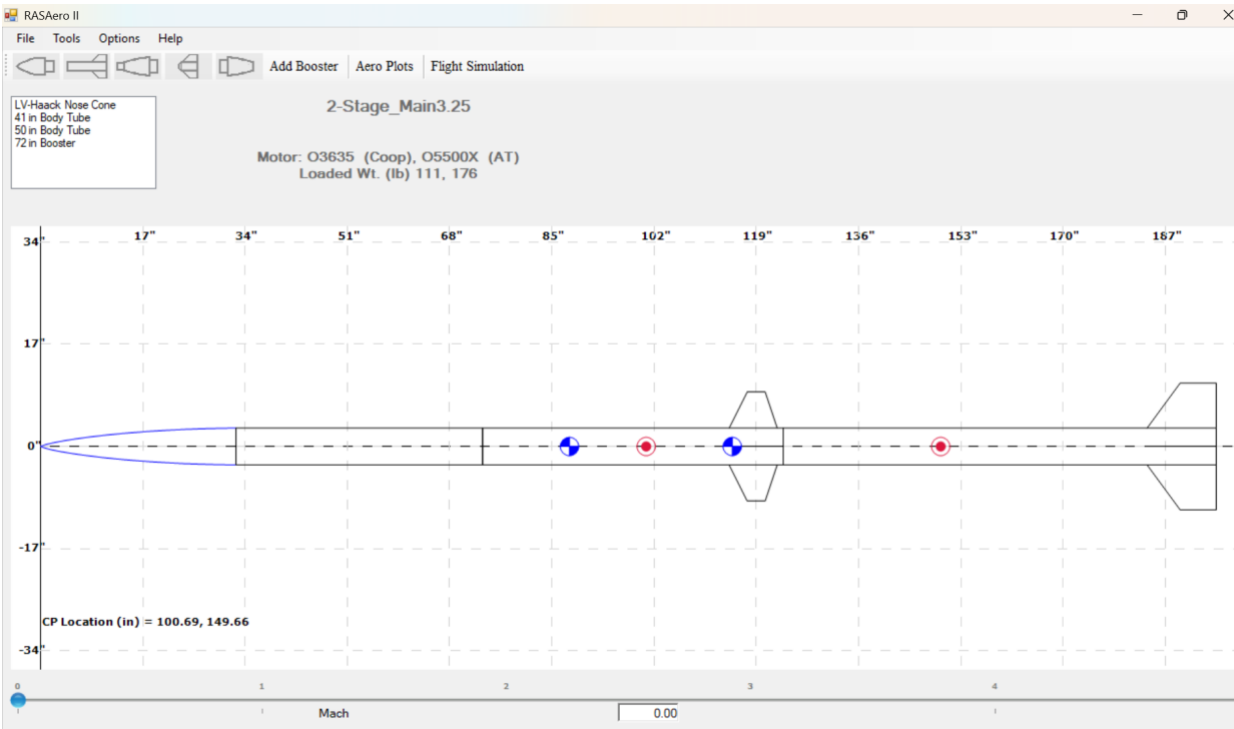

Figure 6: A successfully loaded rocket in RASAero II.
- Keep your OpenRocket tab open and now open RASAero II. In RAS, select [File] → [Open], then select the CDX1 file you want to use and press [Open]. Next, select [File] → [Select Motor File], then select the same eng directory that you used in OpenRocket, then select [Open]. Your screen should look similar to Figure 6 below.